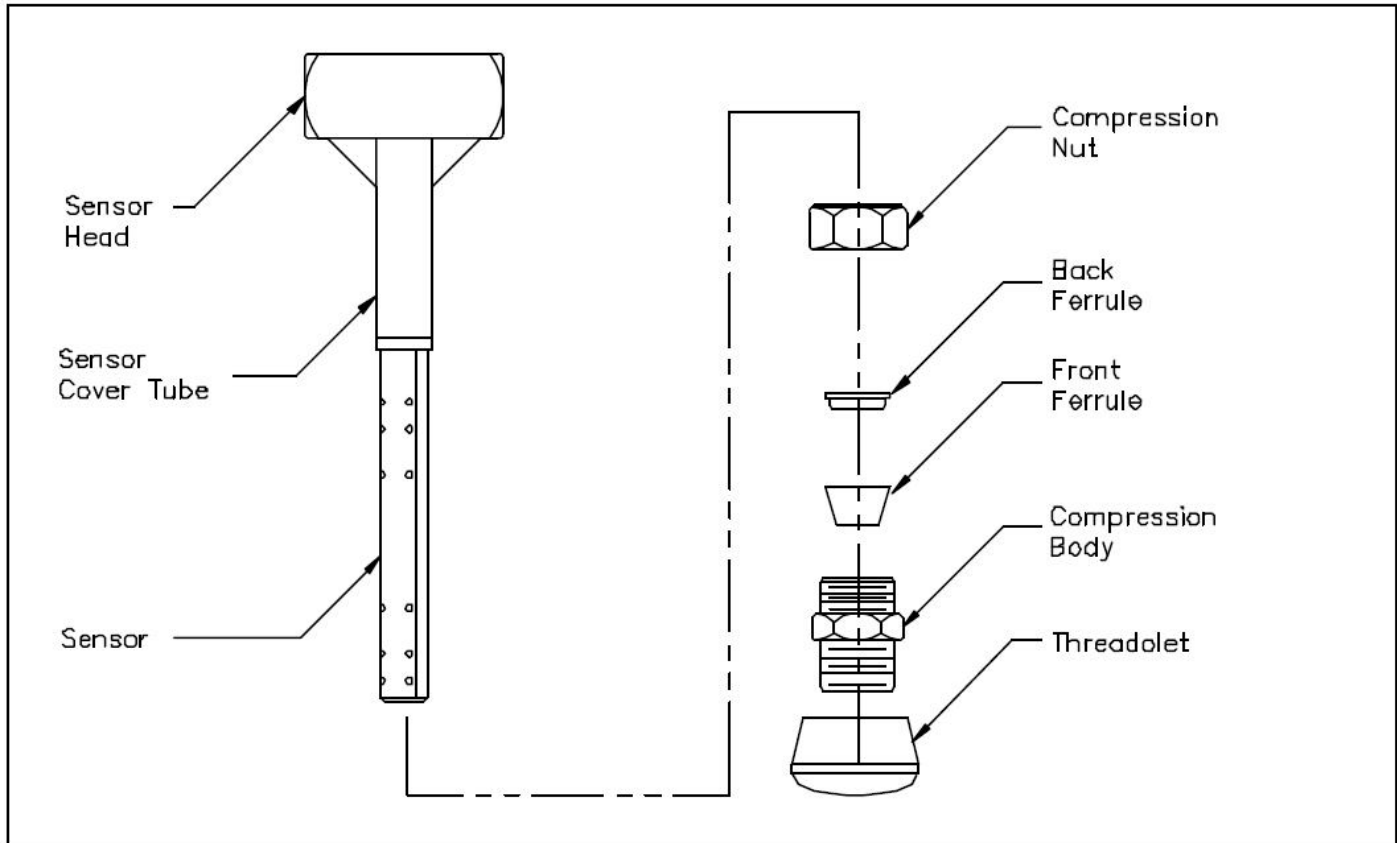

Figure 2. FOPT
- Loosely assemble the sensor, compression nut, back ferrule, front ferrule and compression body to the threadolet (hand tight) and insert the sensor assembly into the pipe. The back ferrule and front ferrule must be in the proper sequence and orientation as shown in Figure 2.